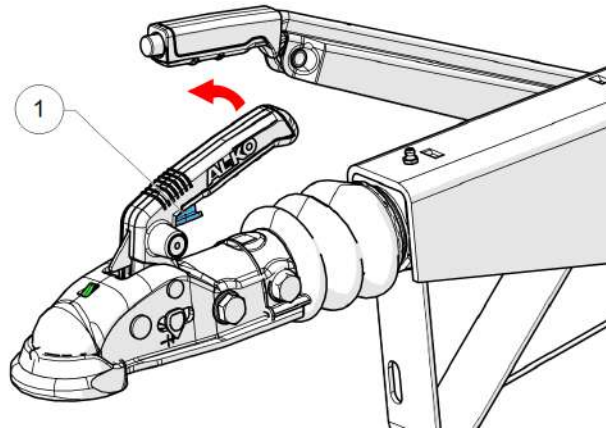

Figure 25 - Tow hitch handle
5. Hold the handle on tow hitch, squeeze the catch (1, Figure 25) with your forefinger and lift the handle.